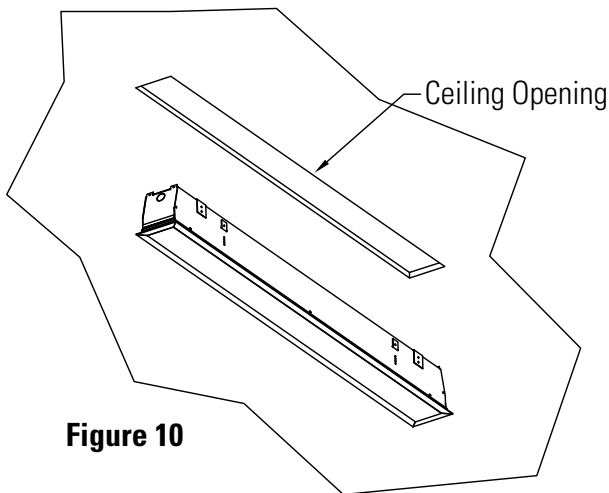

Figure 10
1. Cut ceiling opening 4 inches wide and as long as required to install fixture. (Fig. 10)
1. Cut ceiling opening 4 inches wide and as long as required to install row of fixtures. (Fig. 10)